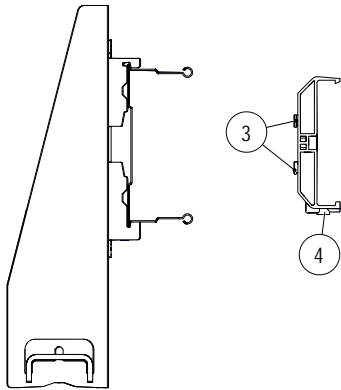
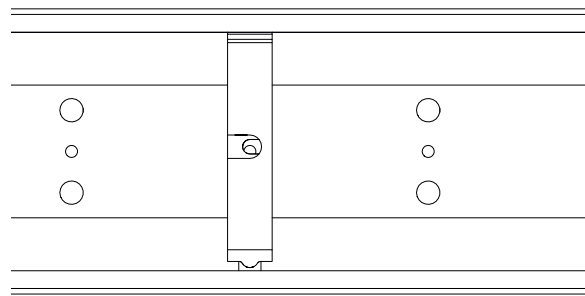

Fig. 59: Locking pin (4) and pin (3) of hanger clamp 0812
Fig. 62: Install hanger clamp 0831 onto ProShell support profile rail
1. Hook the locking pin (4) of the hanger clamp onto the lower frame of the ProShell support profile so that by screwing in the hanger clamp, the two pins (3) are sunk into the holes of the ProShell support profile (see Fig. 59 to Fig. 62).